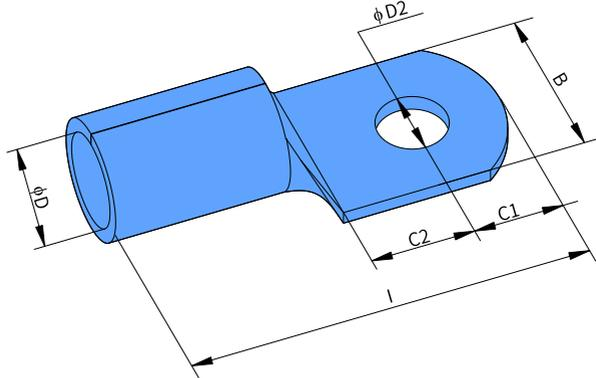

Figure 4-11 Appearance of the wiring terminal
Table 4-8 and Figure 4-11 show the maximum dimensions of the wiring terminal.
- [3] For positions of jumpers J7, J9 and J10 on the control board, see Figure 4-11.